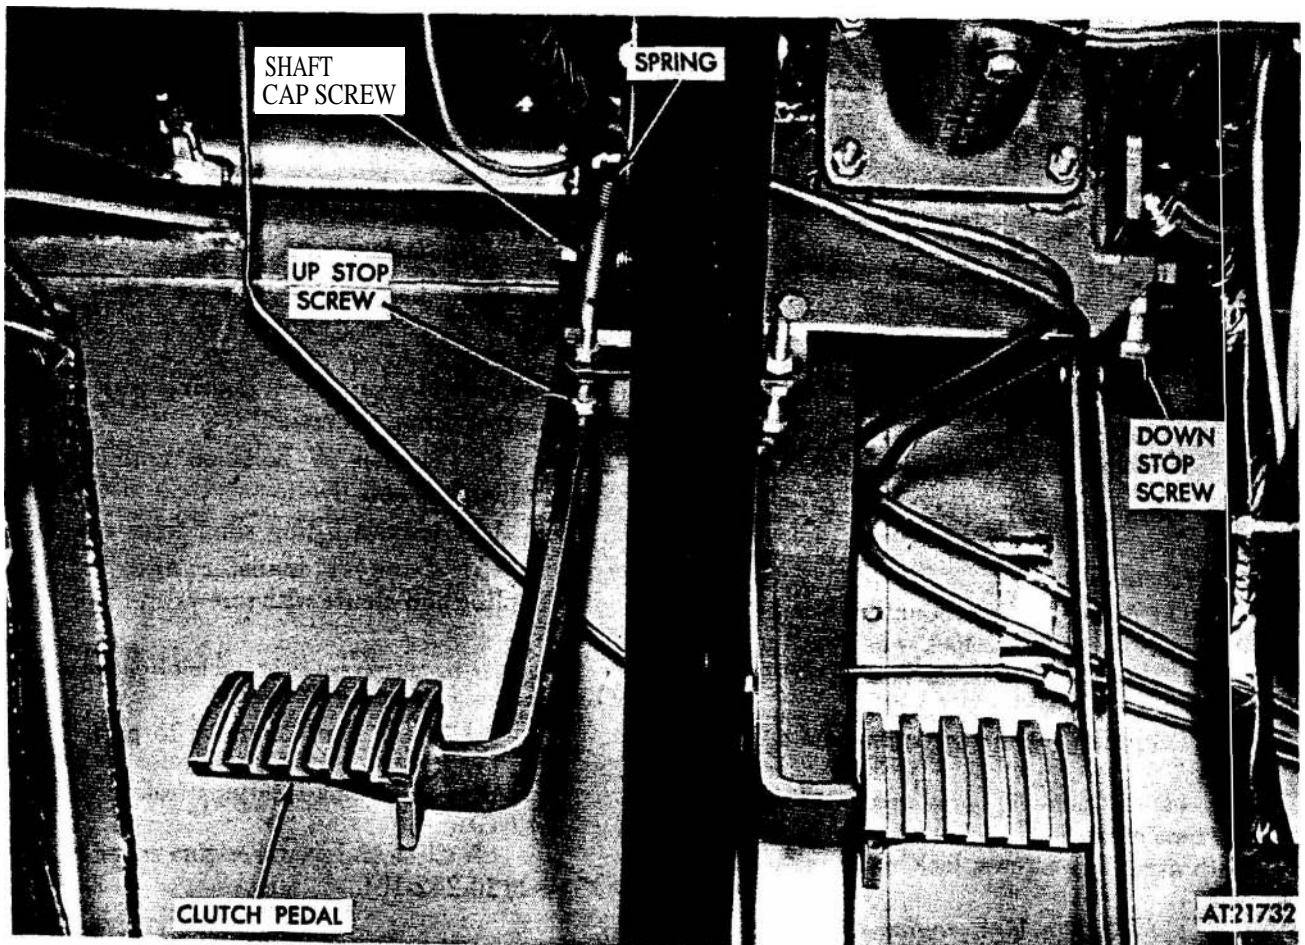

Figure 2-78. Clutch pedal.
shaft by loosening cap screw, removing spring, and sliding clutch pedal off shaft (fig 2-78).
securing by tightening cap screw. Attach spring to clutch pedal and vehicle frame (fig 2-78).
(1) Open and secure engine cover (refer to TM 9-2320-242-10).
(2) Remove tractor seats (refer to para 2-221).
(3) Remove console (refer to para 2-33).
(4) Adjust up stop screw until a clearance of 9.08-inches exists between vehicle front wall and clutch pedal in free position (fig 2-78).
(5) Depress clutch pedal and adjust down stop screw until a clearance of $\frac{3}{4}$ -inch exists between vehicle front wall and clutch pedal.